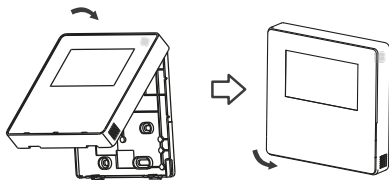

Fig. 3-11
- After adjusting the upper case and then buckle the upper case; avoid clamping the wiring during installation. (Fig 3-11)